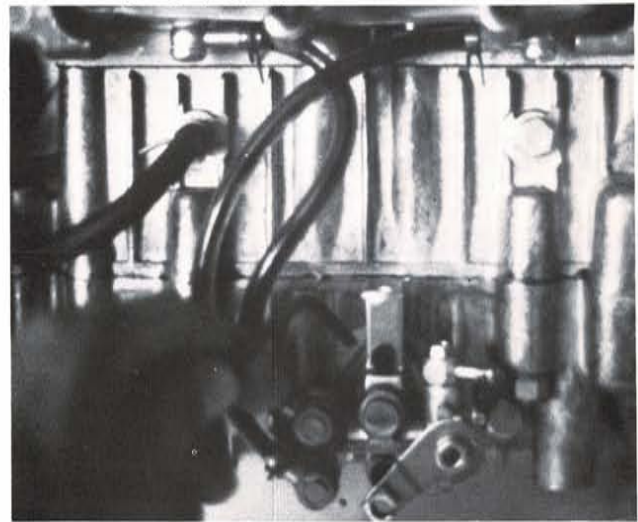

FIG. 10
8. Remove the screws that secure oil pump to engine, then detach pump. (Fig. 10)